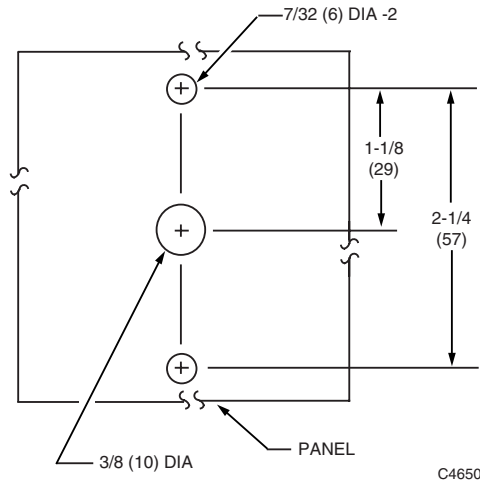

Fig. 13. Hole dimensions in in. (mm) for the LP916 mounting kit.
1. Drill holes in the panel on the centers. See Fig. 13.